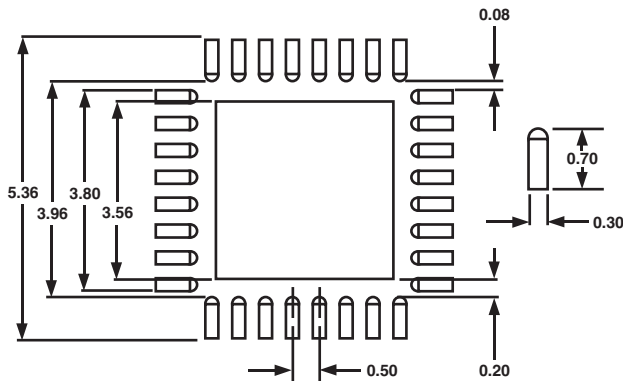

Figure 7. LFCSP Pad Pattern (Dimensions Shown in Millimeters)
1. The pad pattern is given in Figure 7. The pad dimension should be followed closely for reliable solder joints while maintaining reasonable clearances to prevent solder bridging.